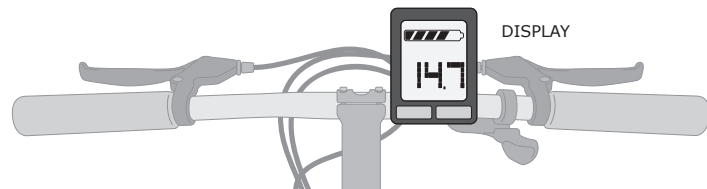

fig. 3 — E-bike display
- **Display(s):** Provide the rider with relevant information about the ride, such as speed, distance, power output, and battery charge [**fig. 3**].